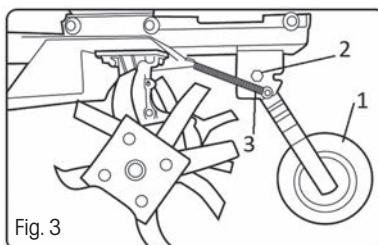

Fig. 3
1. Place the wheel (Fig. 3, point 1) into the prepared opening at the bottom of the cultivator and secure it in place using the included bolt (Fig. 3, point 2).
2. Slide the spring on to the wheel axle and secure in place using the cotter pin (Fig. 3, point 3).